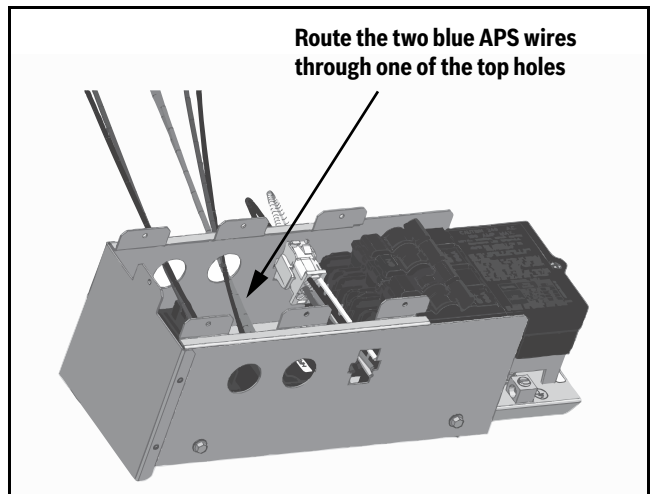

Fig. 23 Route the Two Blue APS Wires
4. Locate the two blue wires (conduit protected) labeled APS on the e-heat control box and route the wires through one of the top e-heat control box holes. (→Refer to Fig. 23.)